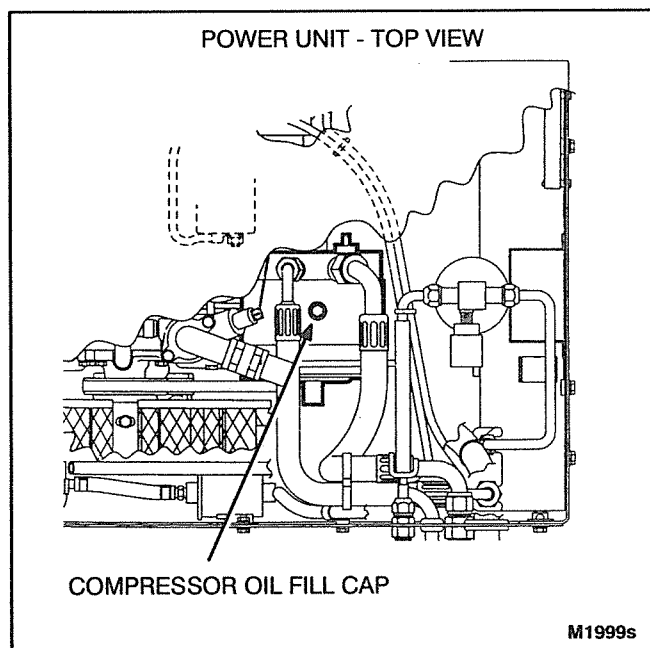

FIGURE 13-2. COMPRESSOR OIL FILL
3. Remove the top cover from the power unit and locate the AC compressor. Carefully remove the oil fill cap (Figure 13-2). Use a clean syringe to add the required amount of oil. Securely reinstall the oil fill cap.